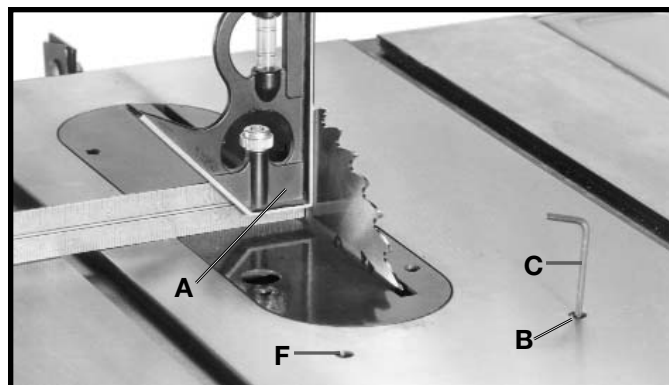

Fig. 59
3. Using a combination square (A) Fig. 59, check to see if the blade is at 90 degrees to the table surface as shown.
4. If the blade is not at 90 degrees to the table, loosen set screw (B) Fig. 59 with supplied wrench (C), and turn the blade tilting handwheel until you are certain the blade is at 90 degrees to the table. Turn set screw (B) clockwise until it bottoms.
7. If the blade is not at 45 degrees to the table, loosen set screw (F) Fig. 59, and turn blade tilting handwheel until you are certain the blade is 45 degrees to the table. Turn set screw (F) clockwise until it bottoms.